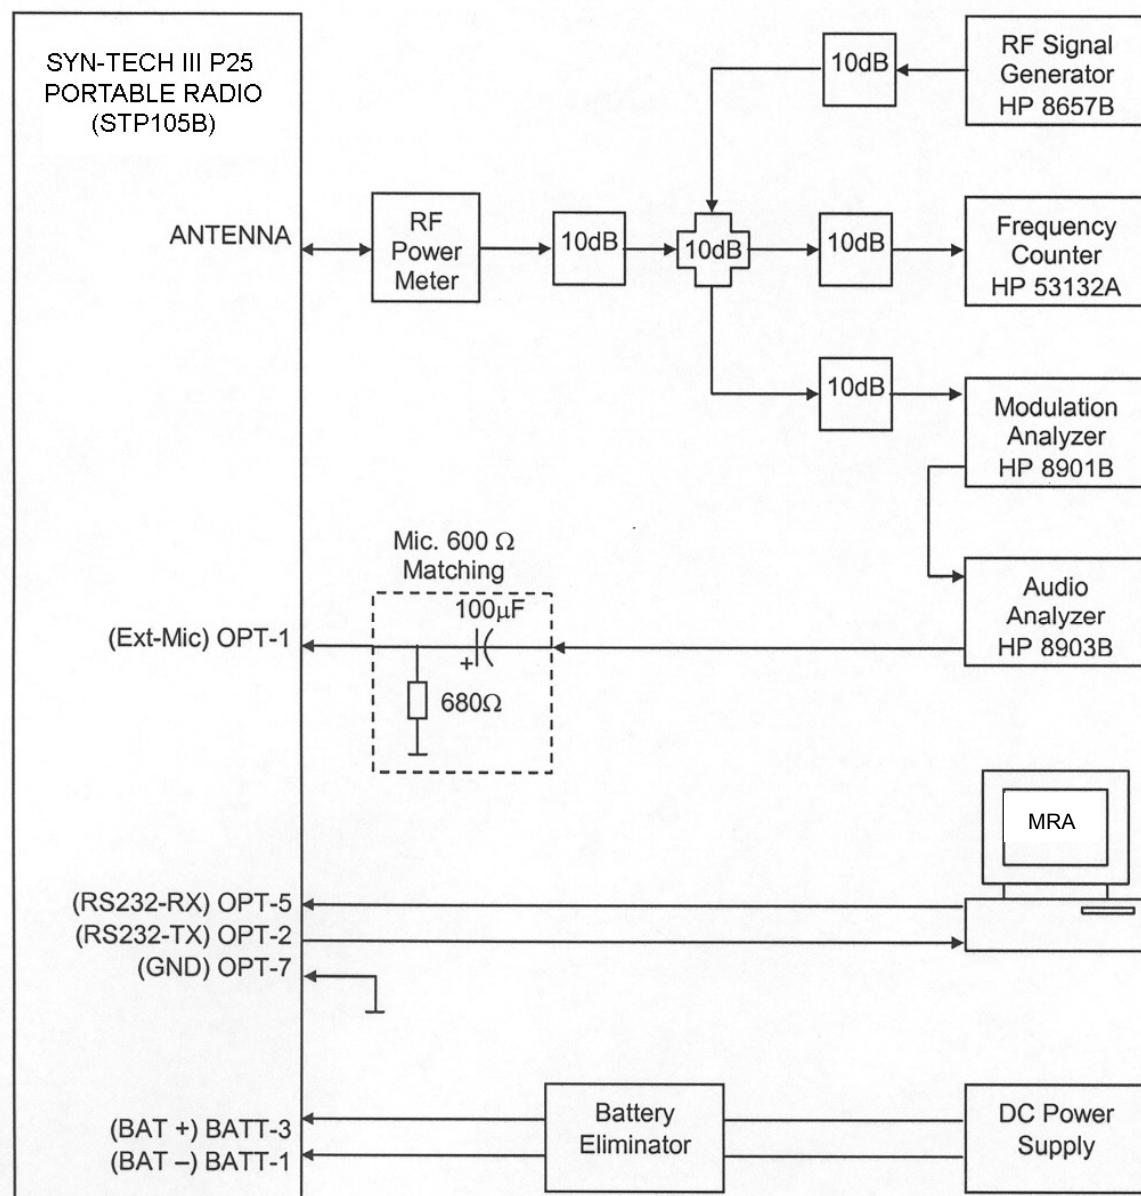

Figure 4-1: Adjustment Setup
Adjustment setup is shown in Figure 4-1.
- a. Connect the equipment as illustrated. (Figure 4.1)